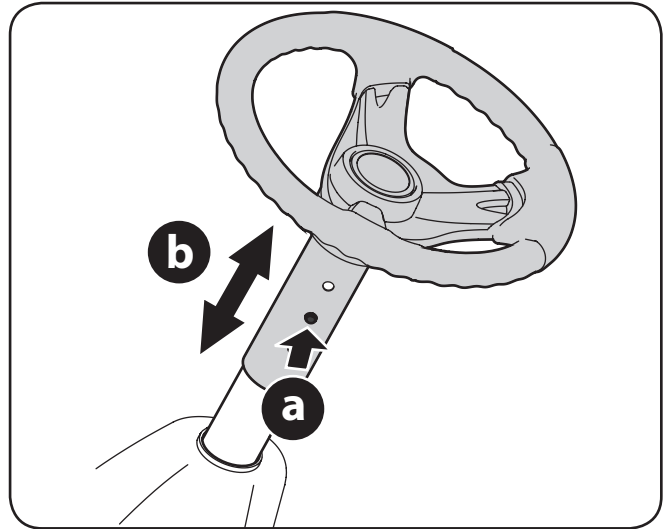

Figure 5-1
2. Push the button (a) on the steering column and raise or lower the steering wheel (b) to the desired position. See Figure 5-1.
2. Turn the key from the NORMAL MOWING (Green) position to the REVERSE CAUTION MODE (Yellow) position of the key switch module. See Figure 5-1.